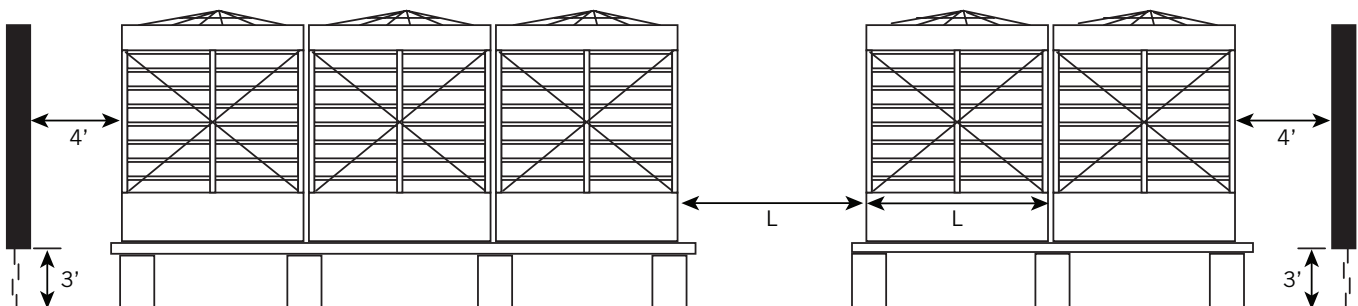

Figure 17. Elevation View of Recommended Enclosure
- 1. Enclosure:** The bottom 3 feet of the well should be louvered a minimum of 50% net free area to allow air flow under the units as shown in **Figure 17**.